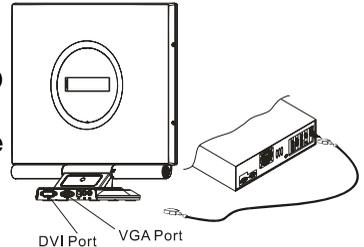

Figure 1-3
2. Connect one end of the signal cable to the LCD Monitor's VGA port or DVI port.(See Fig 1-3)